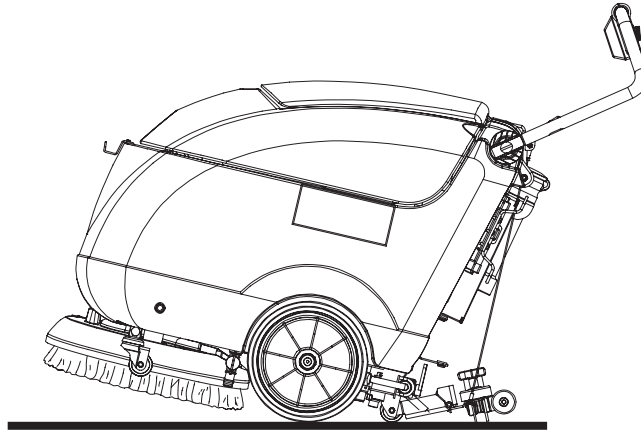

Figure 4
2. Lift the squeegee with the lever (19).
3. Grasp the handlebar (2) and slightly lower it until the rear wheel (7) comes into contact with the floor (Fig. 4). While holding the machine in this position, push it to the transport/parking area.
4. In order not to drag the brush/pad on the floor and leave wet marks, when finishing working, remove the brush/pad-holder from the deck by using the release device (see the procedure in After Using The Machine paragraph), then place it on the support (43).